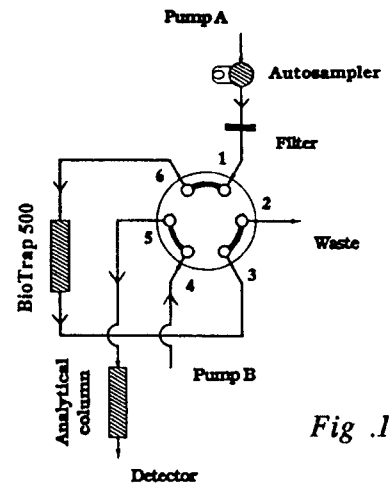

Fig. 1
A 6-port valve is depicted in Fig. 1. The different components are connected to different ports in the valve as described below:
It is recommended to use our specially designed 2 µm filter (art.no. F-117), with filter holder in PEEK (art.no. F-114), coupled on-line in front of the BioTrap 500 MS column (see Fig. 1), in order to protect the column from particulate impurities.
- 3. Connect the analytical column and the extraction column to the six-port switching valve** according to Figs. 1 and 2. Use the extraction mobile phases recommended above under "General extraction methods".